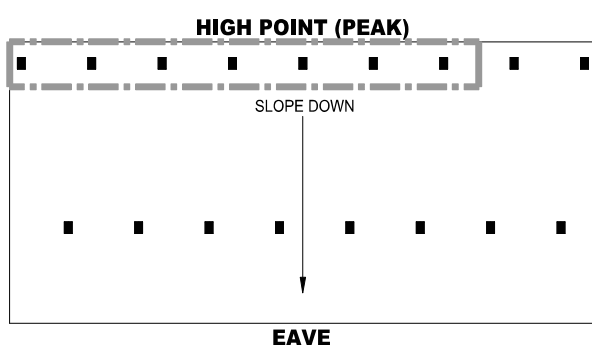

FIGURE 20B
- Calculation #1: Calculate the 7 most hydraulically demanding contiguous DS sprinklers located along the high point (peak). See FIGURE 20B.